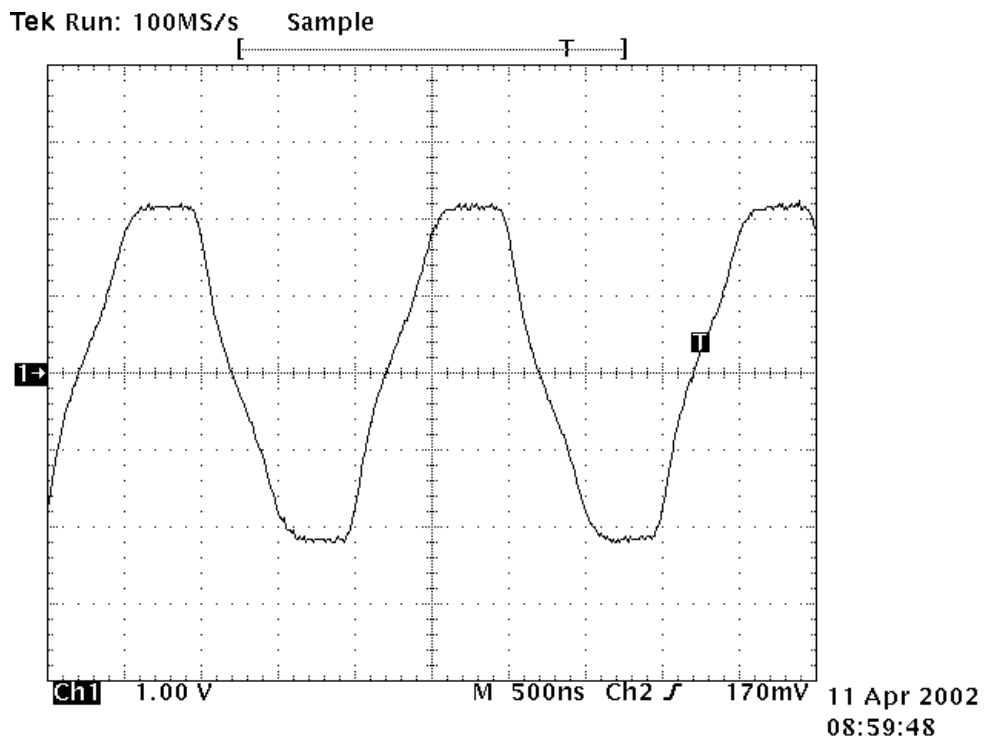

Figure 3 Transceiver Output Test Signal at W17
9. Using a differential scope probe (Tek P6247 or equivalent) connected to W17, and the vertical scale set to 1.00v/div, the trace on the oscilloscope should appear as shown in Figure 3.